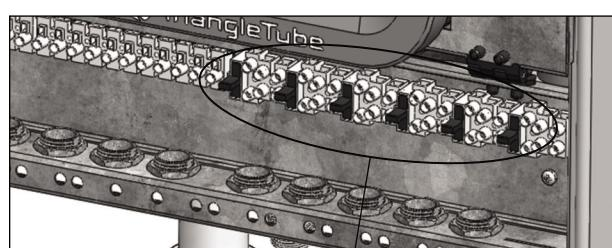
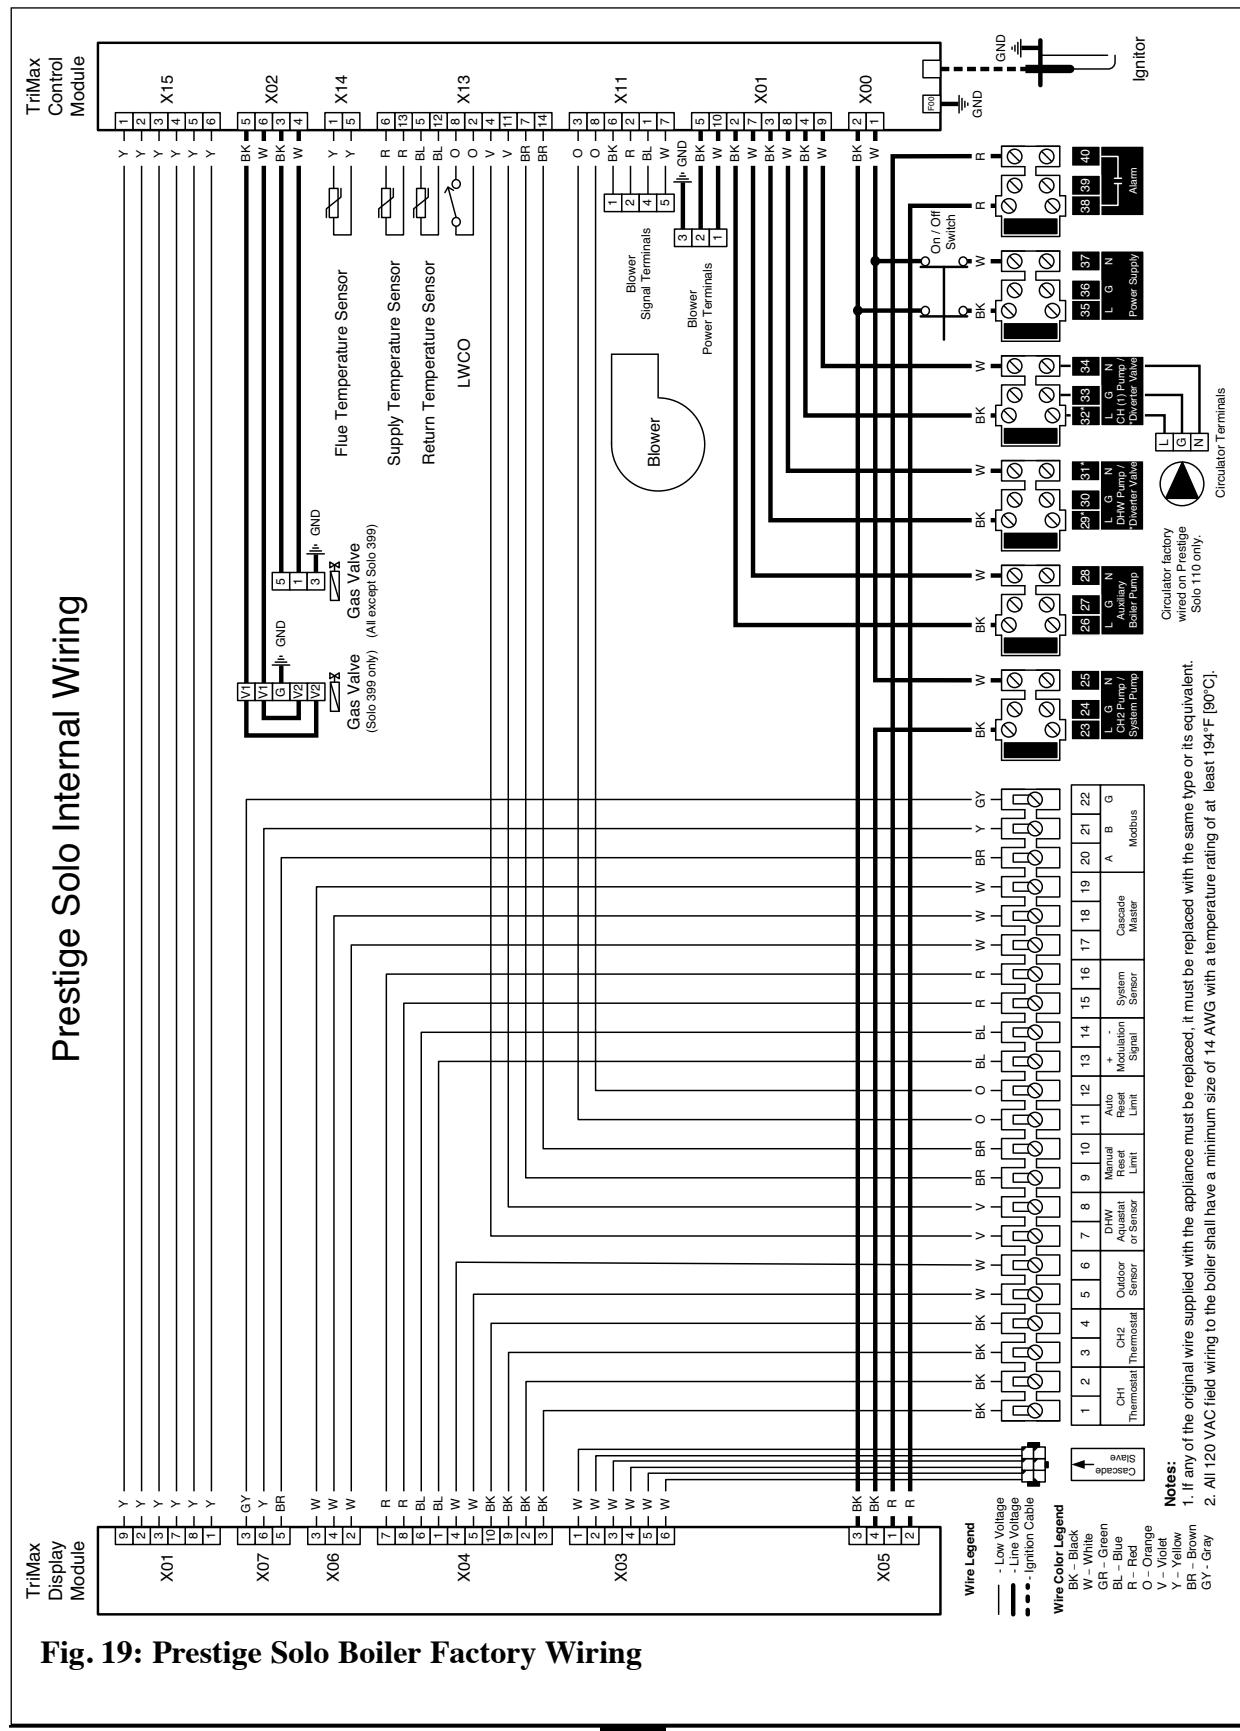

Fig. 18A: Fuse Location on the line voltage Terminals
Fig. 19: Prestige Solo Boiler Factory Wiring
Additional fuses are also located on the line voltage terminals as shown in Fig. 18A and Fig. 19.
1. Connect a dedicated 120 VAC/15A service to the line voltage terminal strip on the wiring panel below the PRESTIGE control module, as shown in Fig. 19, page 31.
2. Connect the CH circulator to the line voltage terminal strip on the wiring panel below the PRESTIGE control module, as shown in Fig. 19 on page 31. The CH circulator is enabled during a CH 1 or CH 2 call. This circulator is used to supply heat to the central/space heating loop.
3. Connect the DHW circulator to the line voltage terminal strip on the wiring panel below the PRESTIGE control module, as shown in Fig. 19 on page 31. The DHW circulator is enabled during a DHW call. This circulator is used to supply heat to an indirect hot water heater.
4. Connect the Auxiliary Boiler circulator to the line voltage terminal strip on the wiring panel below the PRESTIGE control module, as shown in Fig. 19 on page 31. The auxiliary boiler circulator is enabled during a CH or a DHW call. This circulator is typically used in retrofit applications where the CH and DHW systems are connected to a common boiler supply.
5. Connect the System circulator to the line voltage terminal strip on the wiring panel below the PRESTIGE control module, as shown in Fig. 19 on page 31. The system circulator is enabled during a CH1 or CH2 call with the factory default TriMax settings. This circulator is typically used to circulate water in the secondary CH loop when zoning with zone valves.
1. Connect the external monitoring device to the line voltage terminal strip on the wiring panel below the PRESTIGE control module, as shown in Fig. 19 on page 31.
1. Connect the room thermostat or dry contact end switch to the low voltage terminal strip on the wiring panel below the PRESTIGE control module, as shown in Fig. 19 on page 31.
1. Connect the DHW aquastat or temperature sensor to the low voltage terminal strip on the wiring panel below the PRESTIGE control module, as shown in Fig. 19 on page 31.
2. Connect the additional boiler limit to the low voltage terminal strip on the wiring panel below the PRESTIGE control module, as shown in Fig. 19 on page 31.
1. Connect the system temperature sensor to the low voltage terminal strip on the wiring panel below the PRESTIGE control module, as shown in Fig. 19 on page 31.